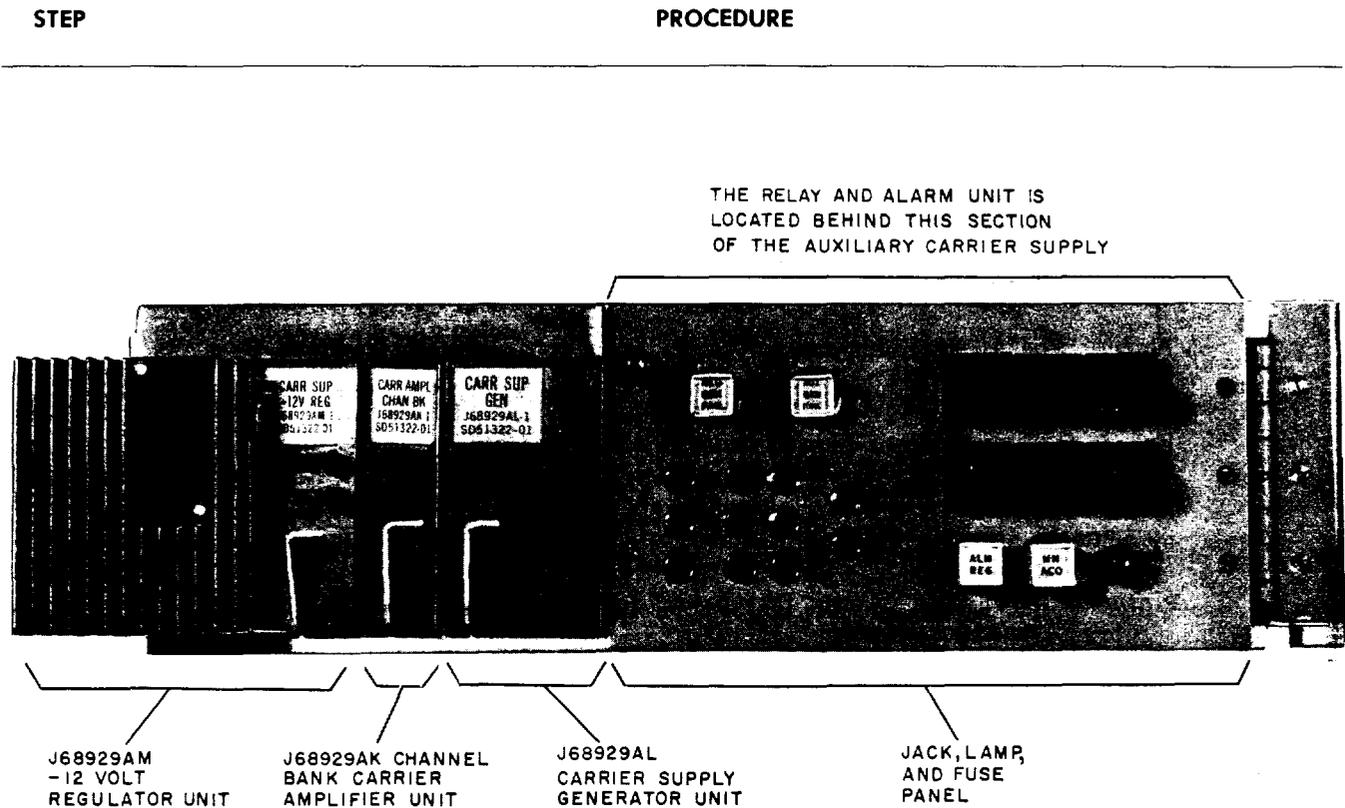

Fig. 6—J68929AP Auxiliary Carrier Supply
<p>Note: This chart should be performed after Chart 1, if applicable.</p> <p>At the J68929AP A6 auxiliary carrier supply:</p> <p>Note: The A6 auxiliary carrier supply (Fig. 6) is normally mounted in a miscellaneous bay.</p>
8	(a) Insert the J68929AL carrier supply generator unit (Fig. 6).
- 10 Insert the J68929AM carrier supply -12 volt regulator (Fig. 6).
14	Insert the J68929AK channel bank carrier amplifier unit (Fig. 6).